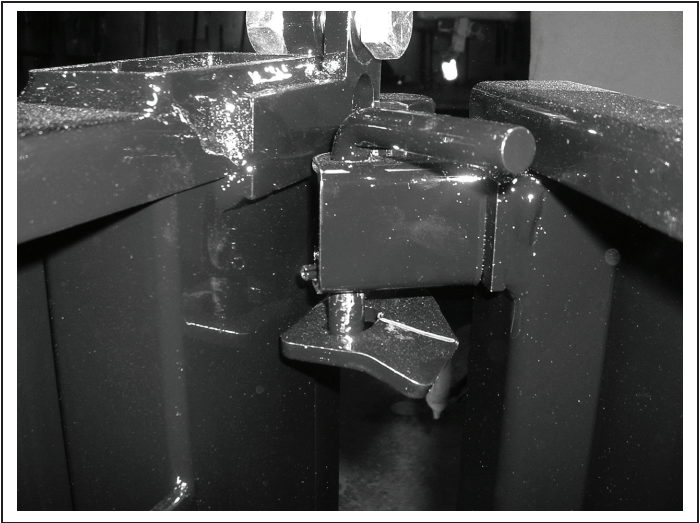

Figure 5-1 – Secure Rear Doors
- Open and secure rear doors with pins. See figure 5-1.